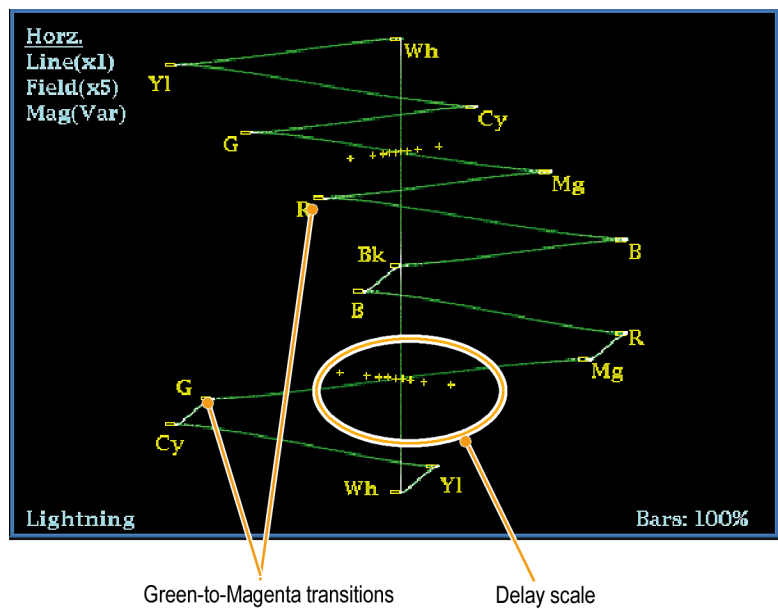

Figure 44: Determining transition intersections in the Lightning display
7. Determine where transitions intersect the delay scales and derive the timing error in nanoseconds, as deflected from the center mark, using the following guidelines. (See Figure 44.)